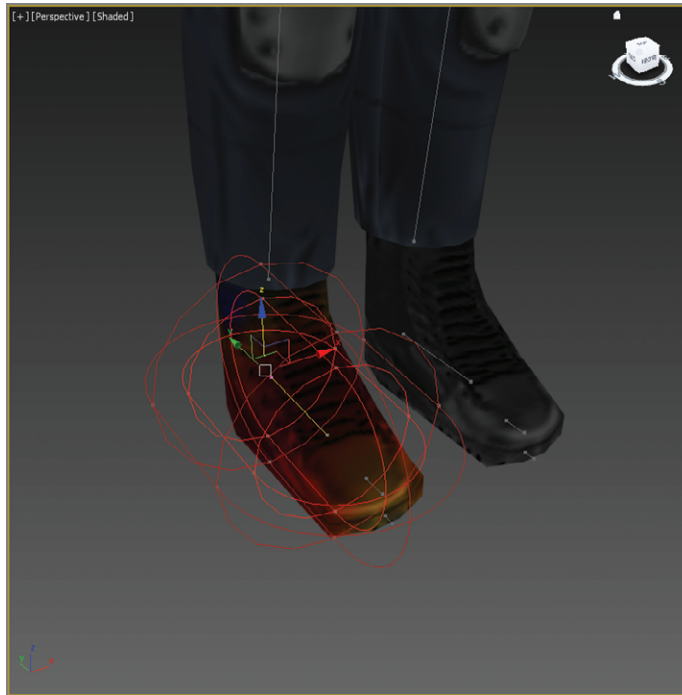

FIGURE 12.23 The edited envelope for the right foot
10. Move the points on the bone so they run from the toe to the heel, and then edit the envelopes so that the gradients are isolated on the foot, as shown in Figure 12.23.